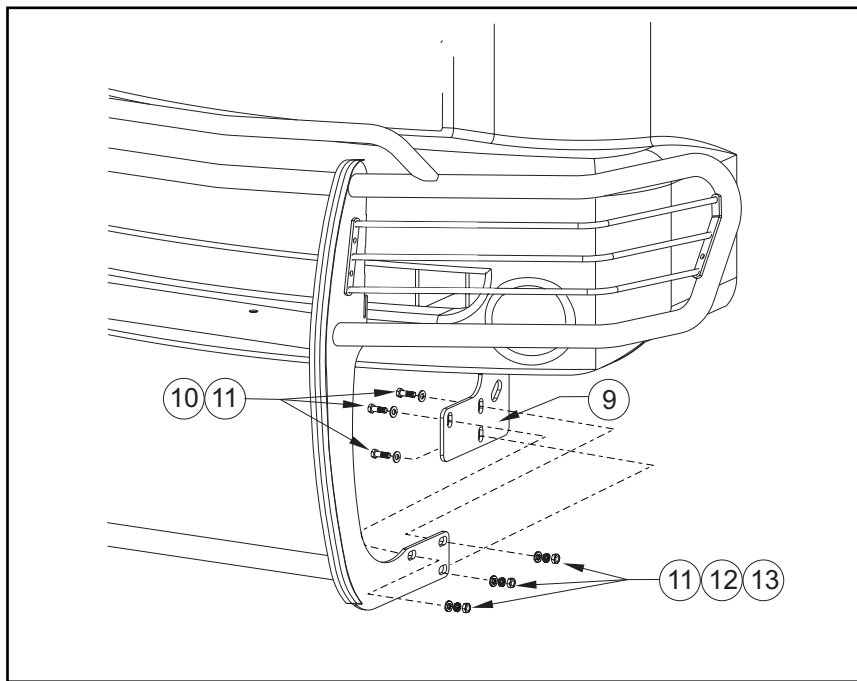

FIGURE 5
- STEP 7.** Place cardboard under vehicle. Lay Sportsman on the cardboard with front side down. Align lower rear upright slots with lower rear bracket slots and fasten together using 1/2" fasteners. Hand tighten. Rotate Sportsman up towards vehicle so that remaining slots align, fasten together using remaining 1/2" fasteners. **SEE FIGURE 5. CAUTION:** Watch for clearance between vehicle and Sportsman.